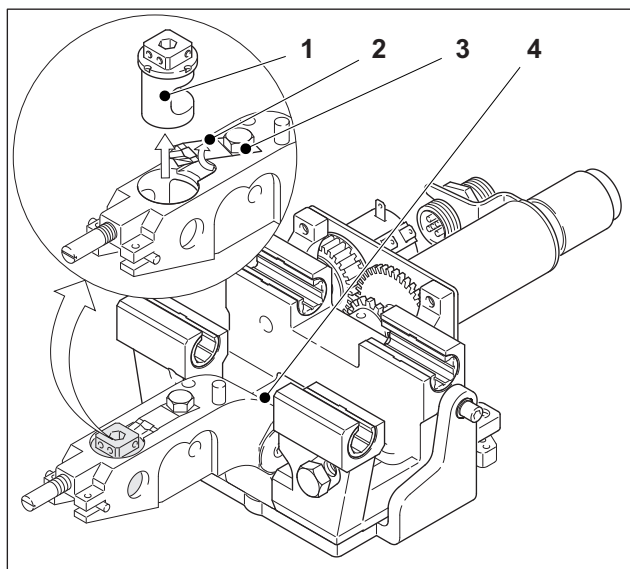

Fig. 24 Gears and chain
1. Open the hexagon-head screw (Fig. 24/3) of the latching spring (Fig. 24/2) using the 7 mm fork wrench. Do not remove the hexagon-head screw.
2. Turn the catch spring (Fig. 24/2) to the side.
3. Remove the valve core (Fig. 24/1) upwards out of the 4-way valve.